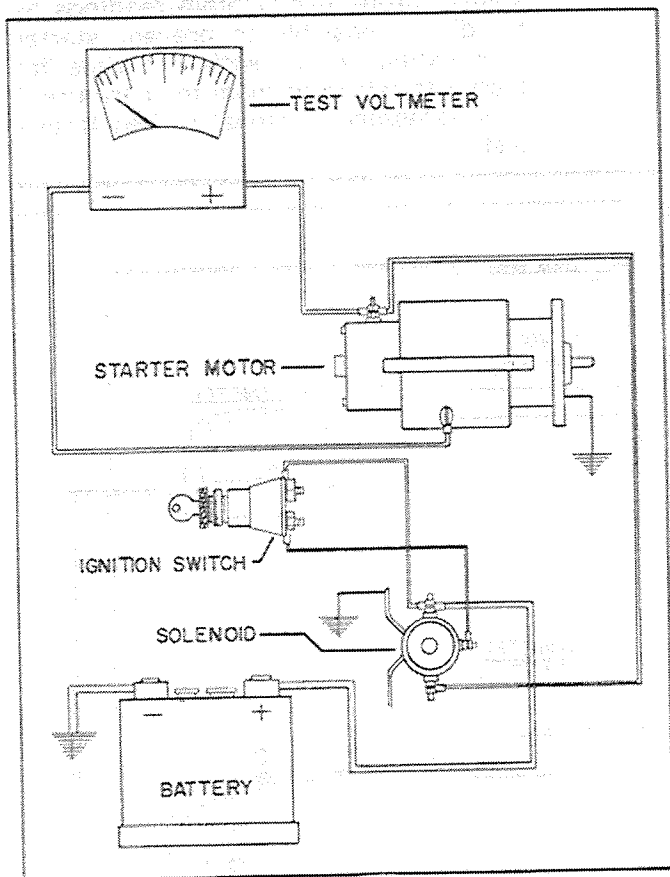

FIGURE 11
3. Connect a voltmeter across starter motor, Figure 11, with positive (+) lead to starter motor terminal, and negative (-) lead to ground on starter frame.